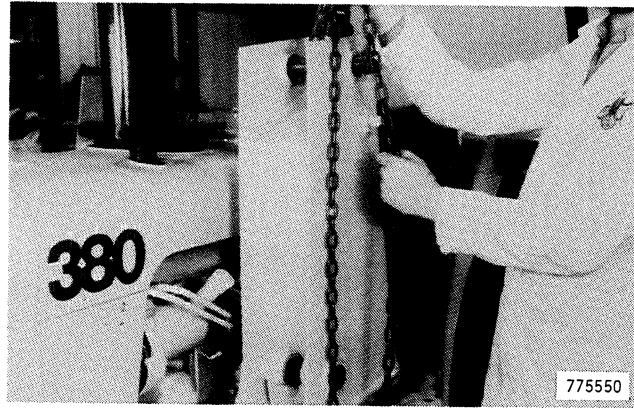

Figure 25
30. Remove the loader upright, Figure 25.